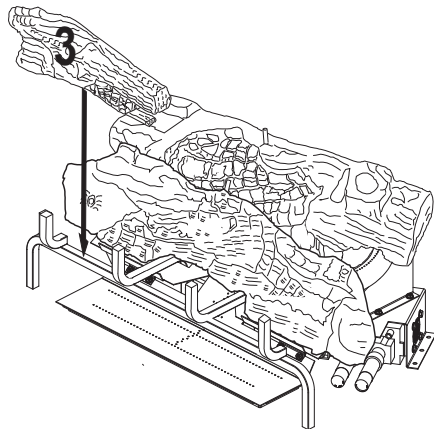

Figure 24 - Installing Log #3
- Place the front left log (#3) onto the base assembly between the middle log (#2) and the grate fingers. The back of the front left log (#3) will rest against the front of the middle log (#2). The notch at the end of the front left log (#3) will fit around the grate bar. See **Figure 24**.